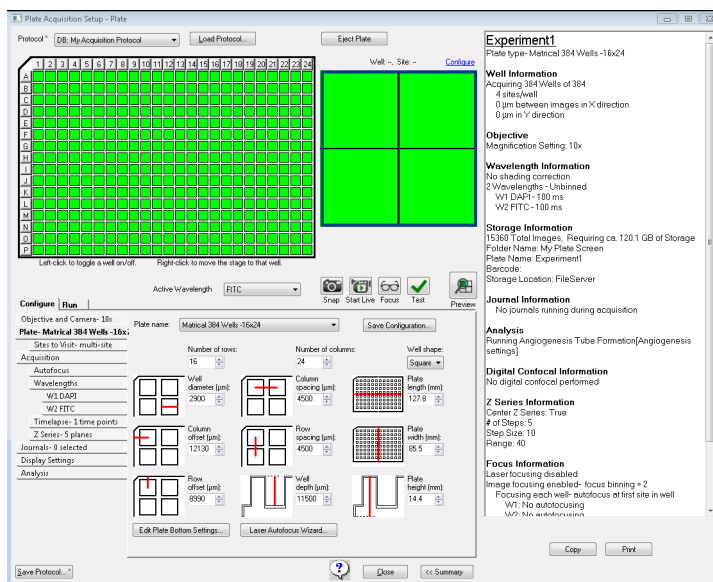

Figure 5-33: Plate Acquisition Setup dialog with open Summary panel
1. At the bottom of the **Plate Acquisition Setup** dialog, click **Summary >>**. See Figure 5-33 on page 140.